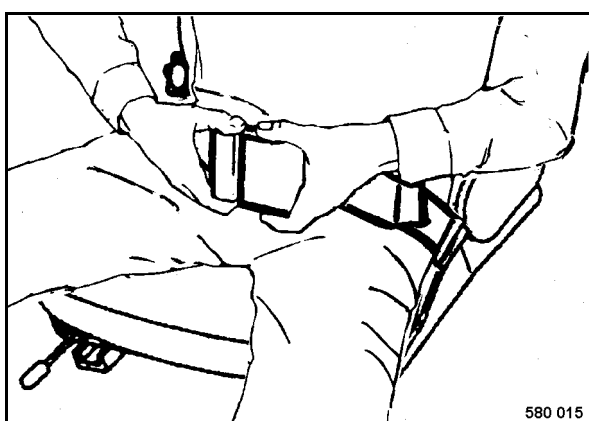

Fig. 47
- Fasten your seat belt (Fig. 47).